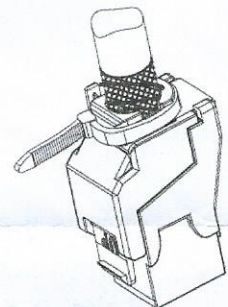

Fig. 14
- 4) Fix the cable tie to the shielding lug (Fig. 14)